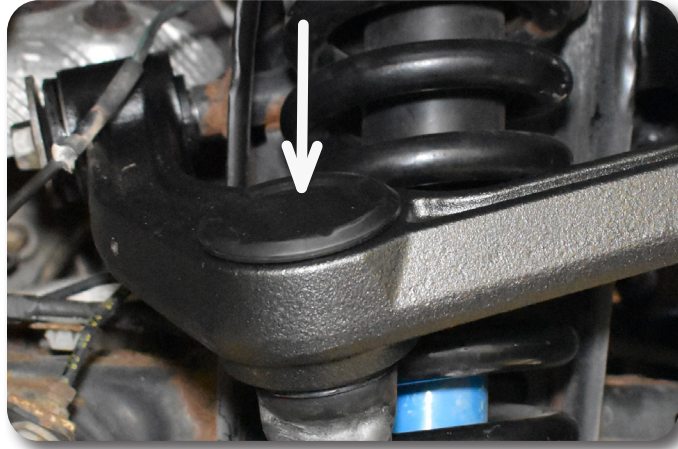

Figure 18
26. GREASE BALL JOINT at this time! Install the O-ring on cap with grease from the included grease packet to aid installation. Install cap. Cap must be removed to access grease fitting for future maintenance. **Figure 18**